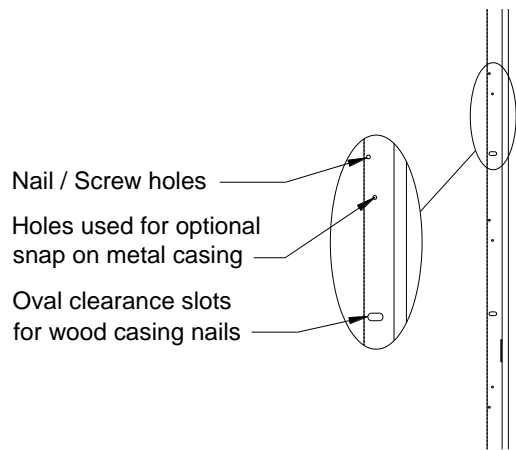

FIGURE 12
(Figure 12)
To secure hinge upright, proceed downward from upper end of hinge upright. Apply one (1) fastener per nail / screw hole (Figure 12).